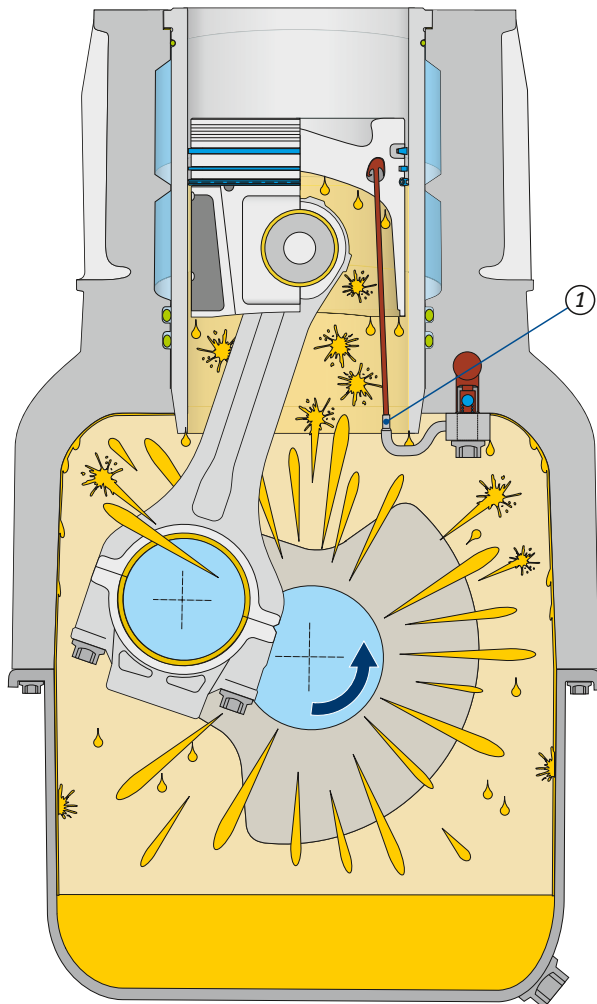

Fig. 2: direct and indirect component lubrication by oil spray and splash oil
Fig. 2 illustrates the engine lubrication situation at medium rpm. Thanks to the higher rpm, sufficient oil pressure is available to open the oil spray jet valves and thus supply the piston cooling oil ducts with fresh oil (1). The piston cooling oil dripping back additionally lubricates and cools the gudgeon pins. The cylinder surfaces beneath the pistons are reliably lubricated with a sufficient quantity of splash oil emerging as intended from the engine bearings of the crankshaft.